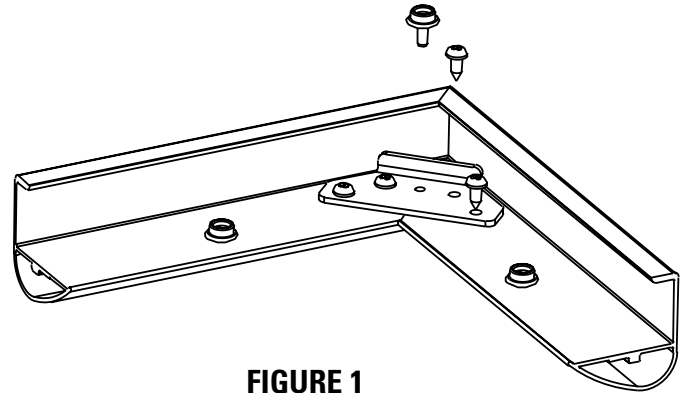

FIGURE 1
2. Slide the frame pieces together at corners. (Note: Frame assembly holes may not appear to fit properly at the corners until all fasteners have been attached. Once fasteners are attached, the frame corners will be drawn in for a proper fit.) Secure frame pieces with #10 screws provided. Do not tighten screws until all are started, then tighten. See Figure 1.
4. Insert and tighten the snap stud in the center of the corner bracket (Figure 1).